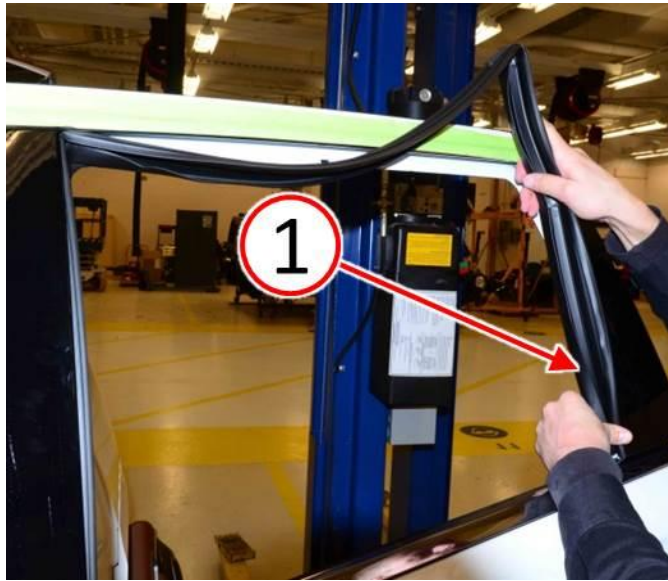

Fig. 19 Install Rear Leg Of Door Glass Run Seal
6. Continue with the NEW door glass run seal (1) installation by inserting the seal rear leg (1) into the rearward door glass run channel (Fig. 19).